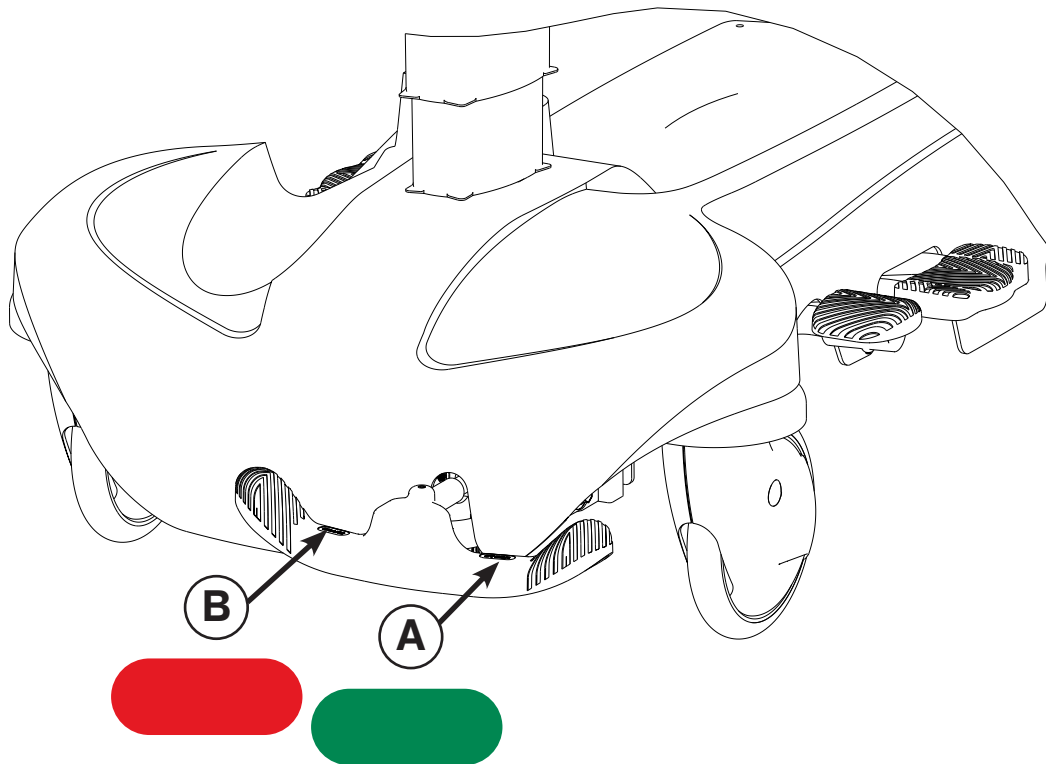

Figure 14: Fifth Wheel (Head End View)
To operate the fifth wheel, push the steer (green) side (A) of any brake/steer pedal to the lowest position as shown in Figure 14.
To disengage the fifth wheel, push the brake (red) side (B) of any brake/steer pedal to the neutral position as shown in Figure 14.